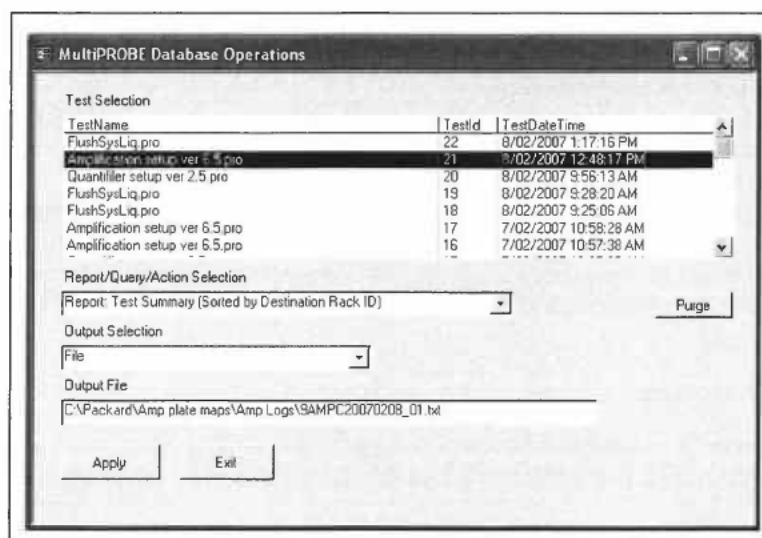

Figure 4. The MultiPROBE log database for collecting MP II run information
47. In the Output Selection dropdown menu, select "File". Save the output file as *.csv format to C:\PACKARD\EXT PLATE MAPS\EXT LOGS with the same name as the AUSLAB batch ID and click "**Apply**". (refer to Figure 4. below)